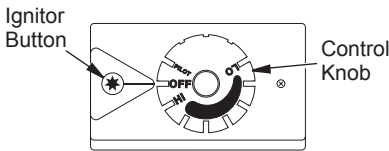

Figure 35 - Control Knob In The OFF Position
4. Wait five (5) minutes to clear out any gas. Then smell for gas, including near the floor. If you smell gas, STOP! Follow "B" in the safety information in column 1. If you don't smell gas, go to the next step.
5. Turn control knob counterclockwise  to the PILOT position. Press in control knob for five (5) seconds (see Figure 35, page 22).